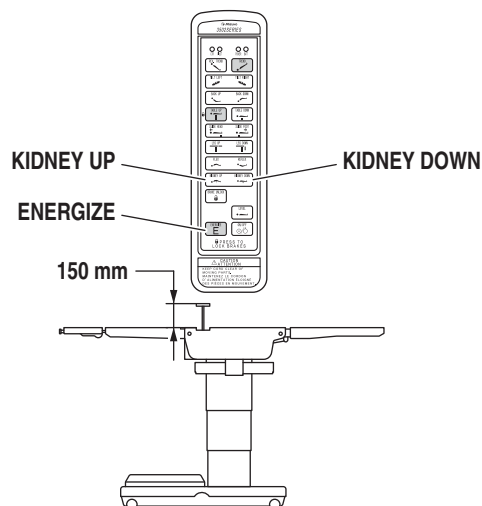

Figure 2-16. Kidney Lift Positioning
i. Kidney Lift To raise the built-in kidney lift, press the ENERGIZE button and then the KIDNEY UP button (figure 2-16). Up to 150mm of lift can be achieved. Press the ENERGIZE button and then the KIDNEY DOWN button to lower the kidney lift.